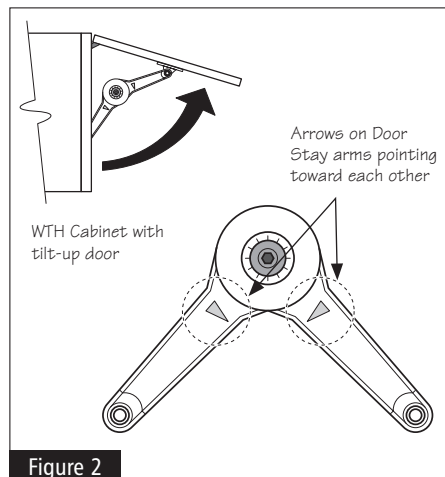

Figure 2
- 1** As delivered, the Wall Top Hinge cabinet door is oriented for a tilt-up application. Note that arrows stamped on Door Stay arms point toward each other. See Figure 2.